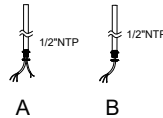

Figure 8
1. Unscrew the nuts on 1/2" NTP. (Figure8)